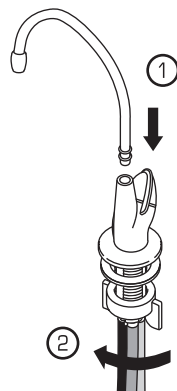

Fig. 19
2. Press Faucet spout into the main body ①. Unscrew to remove the wing nut while keeping the foam gasket against the faucet body ② (Fig. 19).